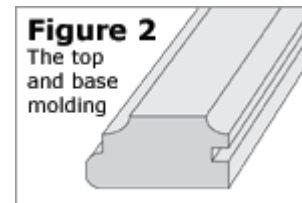

Figure 4
2. Make the molding for the feet (pieces 6) from one 30" length of 3/8" stock using the same router bit (see *Figure 3*). Make a 45° cut on each end of each foot, making a left and right piece (see *Figure 4*). Miter, glue and clamp left and right pieces together to create the feet, and sand them after the glue dries.